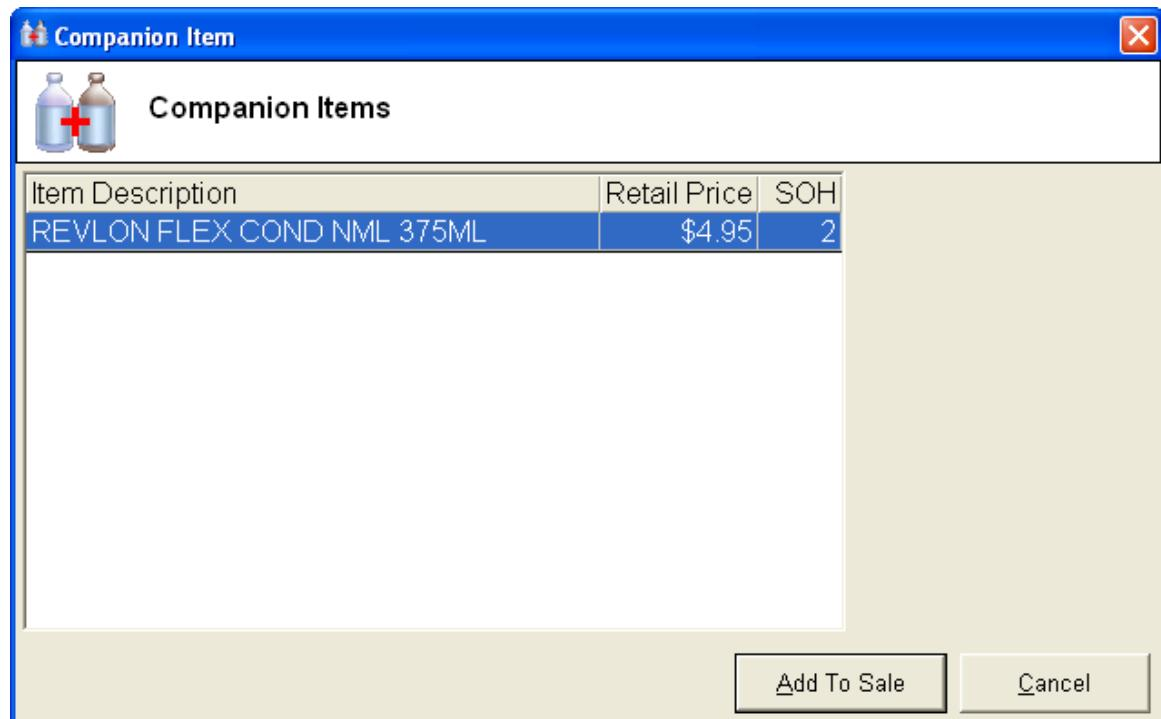

Figure 143
13. When a sale item is being sold the companion item window will be displayed (see Figure 143). This window will allow you either add the item to sales ('Add To Sale') or 'Cancel'.